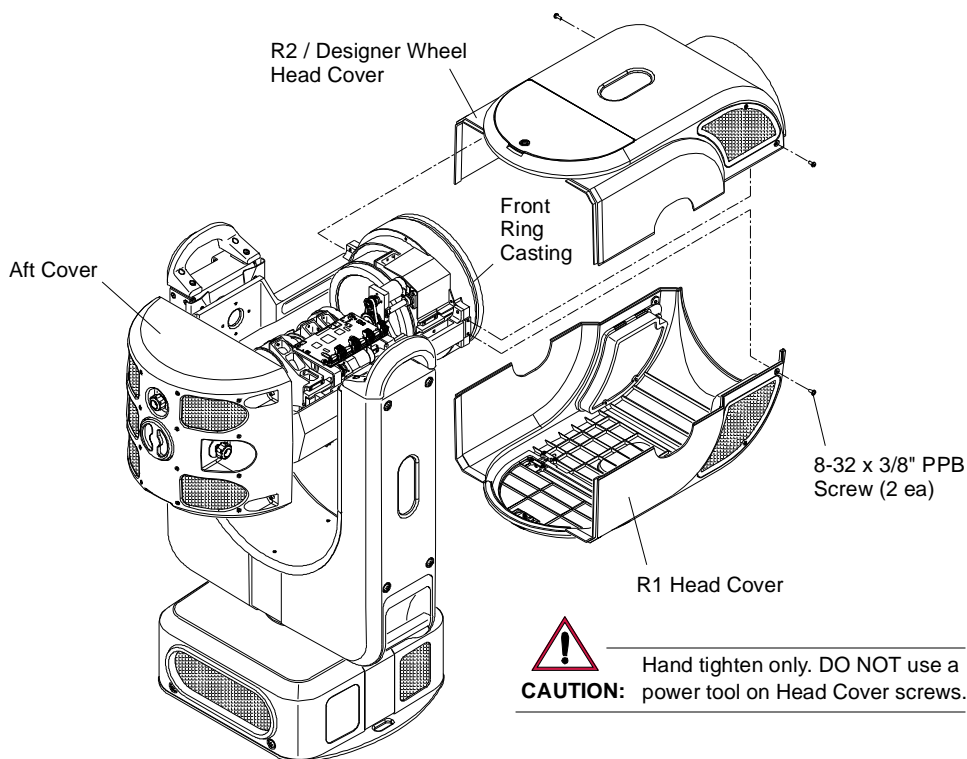

Figure 3-2: Removing Head Covers
- Step 1. At Head Cover, remove two 8-32 x 3/8" PPB screws (Figure 3-2).